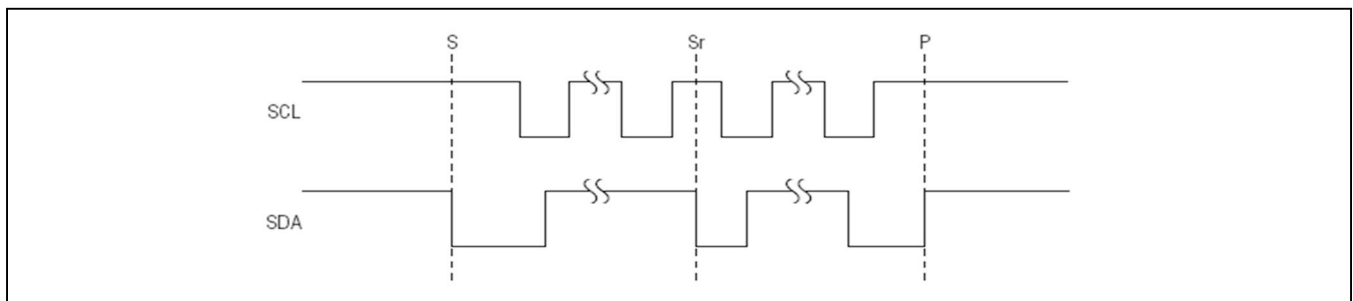

Figure 21. START, STOP, and REPEATED START Conditions
The MAX98371 features an I²C 2-wire serial interface consisting of a serial data line (SDA) and a serial clock line (SCL). SDA and SCL facilitate communication between the IC and the master at clock rates up to 400kHz. Figure 21 shows the 2-wire interface timing diagram. The master generates SCL and initiates data transfer on the bus. The master device writes data to the IC by transmitting the proper slave address followed by the register address and then the data word. Each transmit sequence is framed by a START (S) or REPEATED START (Sr) condition and a STOP (P) condition. Each word transmitted to the IC is 8 bits long and is followed by an acknowledge clock pulse. A master reading data from the IC transmits the proper slave address followed by a series of nine SCL pulses. The IC transmits data on SDA in sync with the master-generated SCL pulses. The master acknowledges receipt of each byte of data. Each read sequence is framed by a START (S) or REPEATED START (Sr) condition, a not acknowledge, and a STOP (P) condition. SDA operates as both an input and an open-drain output. A pullup resistor, typically greater than 500Ω, is required on SDA. SCL operates only as an input. A pullup resistor, typically greater than 500Ω, is required on SCL if there are multiple masters on the bus, or if the single master has an open-drain SCL output. Series resistors in line with SDA and SCL are optional. Series resistors protect the digital inputs of the IC from high voltage spikes on the bus lines, and minimize crosstalk and undershoot of the bus signals.
SDA and SCL idle high when the bus is not in use. A master initiates communication by issuing a START condition. A START condition is a high-to-low transition on SDA with SCL high. A STOP condition is a low-to-high transition on SDA while SCL is high (Figure 21). A START condition from the master signals the beginning of a transmission to the IC. The master terminates transmission, and frees the bus, by issuing a STOP condition. The bus remains active if a REPEATED START condition is generated instead of a STOP condition.